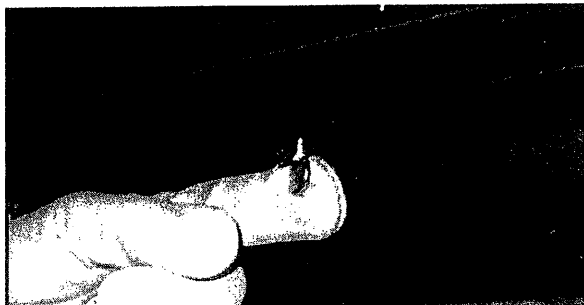

Figure 20
1. Remove the thumb screw from the bottom of the unit that holds the front face in position. See Figure 20.